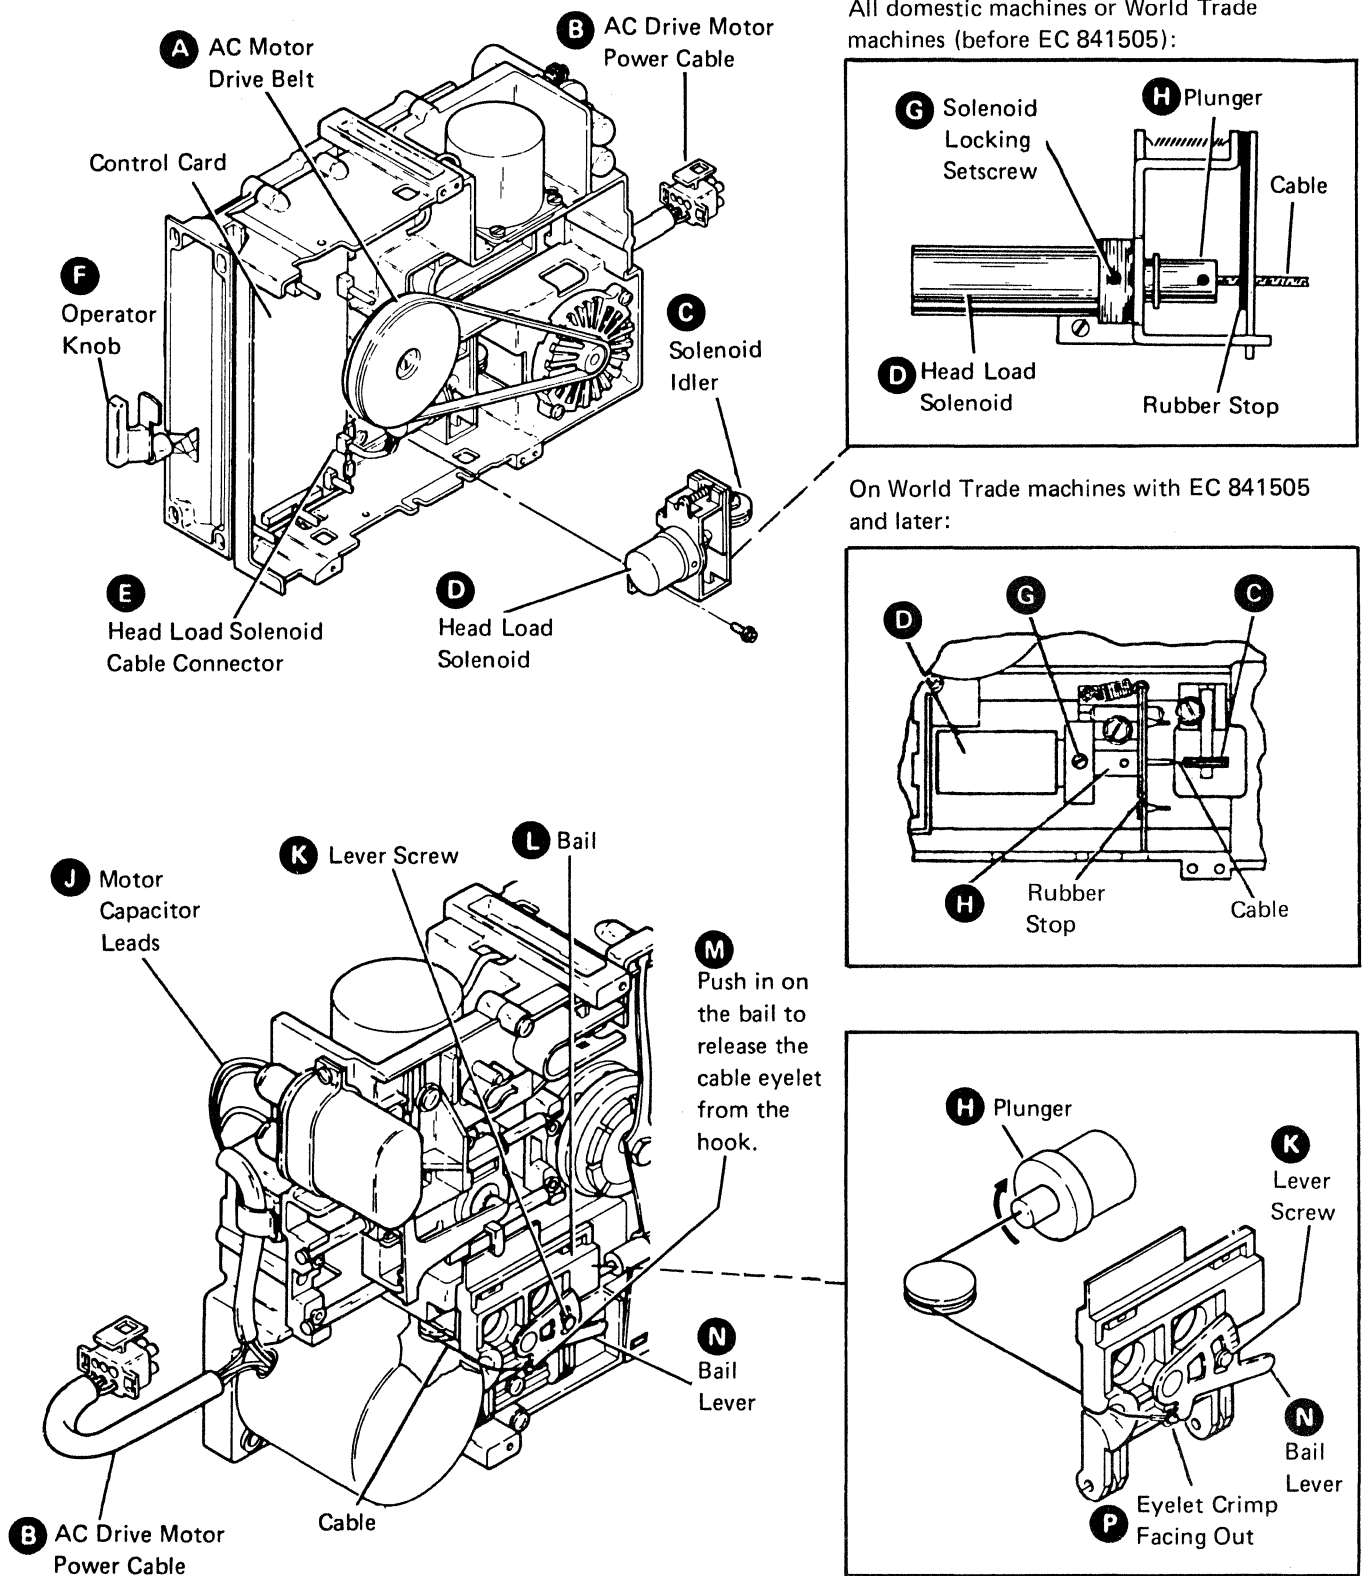

Figure E-29. Bail Removal
E.3.3.5 Bail Removal (Figure E-29)
E.3.3.6 Bail Replacement (Figure E-29)